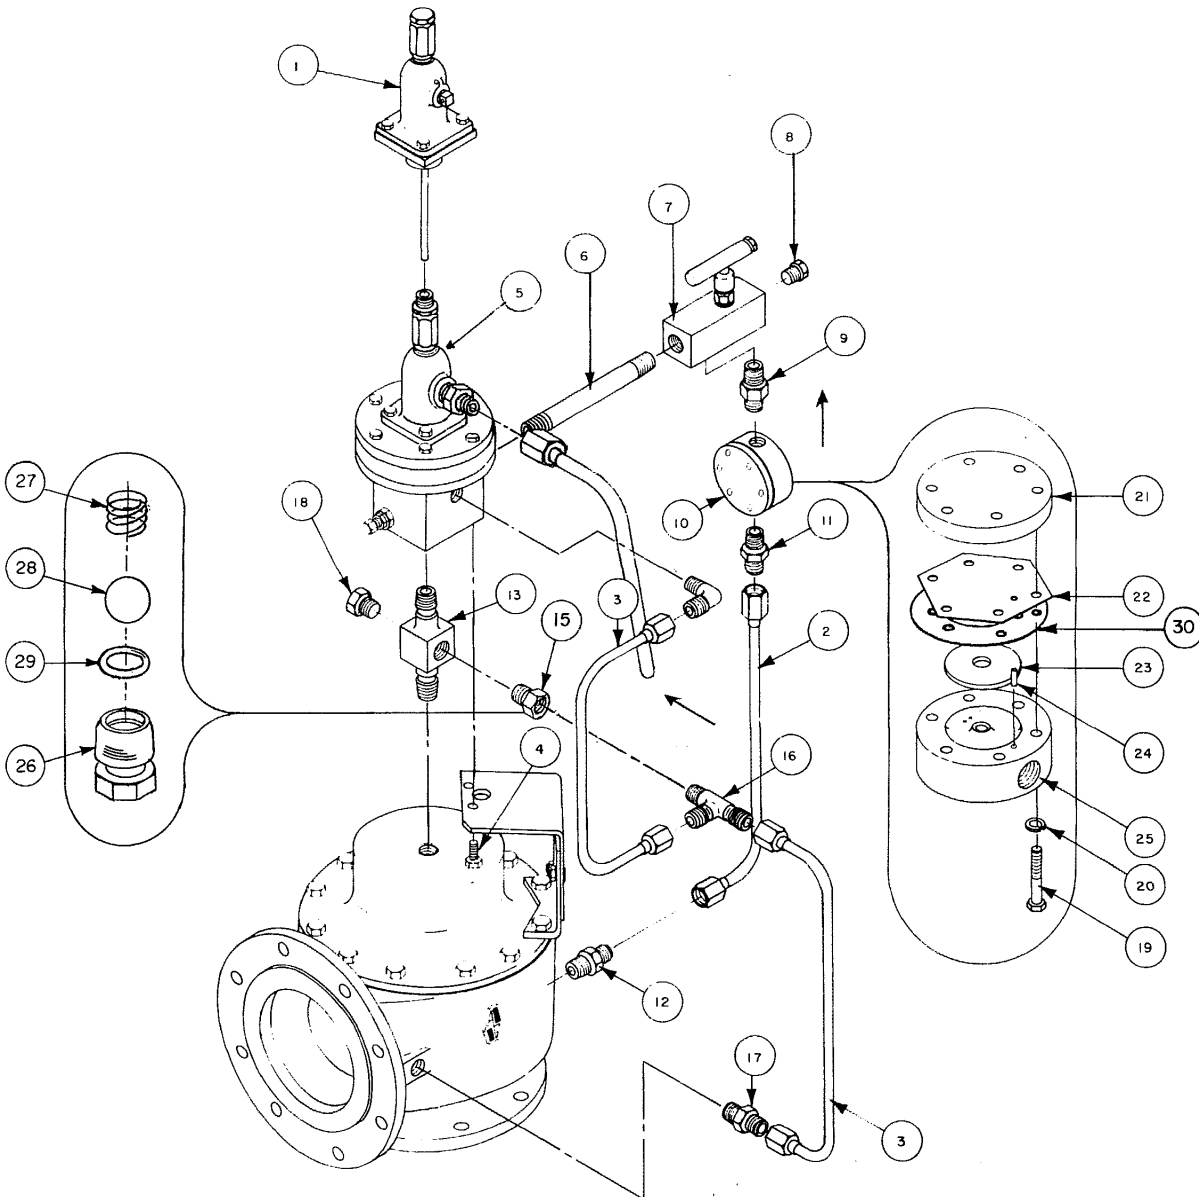

FIGURE 2
2.0 ACCESSORY MAINTENANCE (Refer to Figure 2)